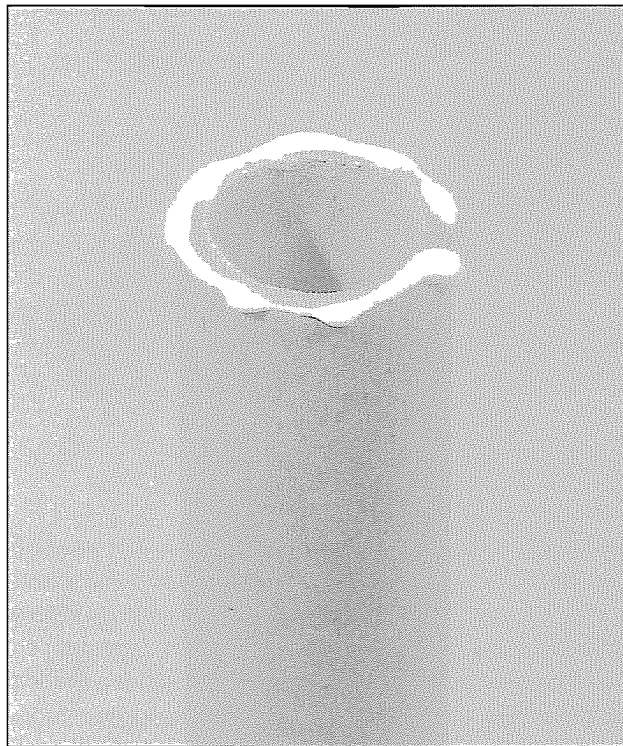

**Figure 19-4.** The cone is pressed down over the front of the motor, creating a circular crease in the paper.
3. Firmly press the cone down over the front of the motor, so that the motor's front edge marks the paper with a circular crease (**Figure 19-4**).